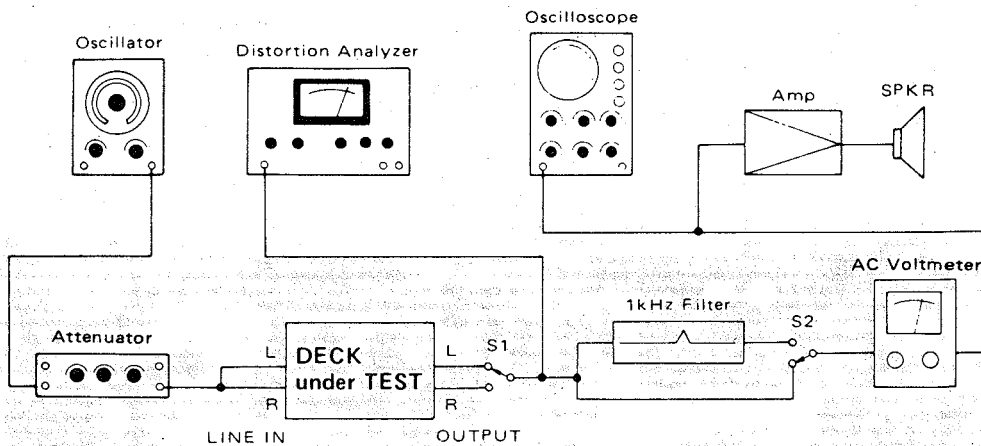

Fig. 5-1 Basic test setup
15. Erase efficiency 消去効果	Connection is same as in Fig. 5-1, but engage 1-kHz filter. Record a 1-kHz signal. Rewind tape to midpoint of recorded portion. Erase the recorded portion with no input signal. Find the difference between the 1-kHz portion and the "no-signal" portion. 接続Fig.5-1.1kHz B.P.F.使用、1kHz信号を録音後中間まで巻戻し一部を消去、未消去部分と消去部分の1kHz出力レベル差を測定。
16. Channel separation チャンネル セパレーション	● Connection: Fig. 5-1, but do not connect LINE IN (R), and engage 1-kHz filter. ● Set the deck to record mode. Find the difference between the 1-kHz recorded portion (L-ch) and the "no signal" portion (R-ch). R-ch無接続、1kHz B.P.F.使用、1kHz録音部分(L-ch)と無信号録音(R-ch)の1kHz再生出力レベルの差を測定。
17. Adjacent track crosstalk トラック間クロストーク	<ul style="list-style-type: none"> <li>● Connection: Fig. 5-1, but do not connect LINE IN (L) and OUTPUT (L).</li> <li>● Record a 125-Hz signal on R-ch and note output level. Invert tape and play R-ch track. Check leakage level against the output reference of previously recorded portion.</li> </ul> L-ch無接続: R-chに125Hzを録音し、その再生出力を基準レベルとする。次にテープを反転し、再生したときのR-ch出力レベルとの差を測定。
18. REC MUTE function REC MUTE効果	Connection: Fig. 5-1, but engage 1-kHz filter. Record a 1-kHz signal. Push REC MUTE button for several seconds. (At this time, make sure LED lights). Rewind and play the tape. Find the difference between the 1-kHz portion and the "no-signal" portion. 1kHz B.P.F.使用, 1kHz信号を録音し、途中REC MUTE鈕を押し無信号部を作る。そのテープを再生し、録音部と無信号部の出力レベル差を測定。